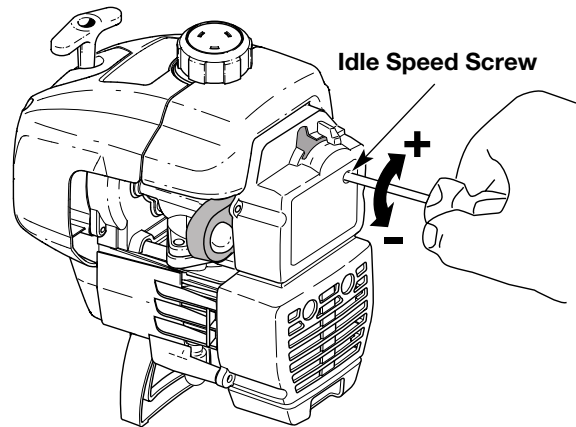

Fig. 33
The idle speed of the engine is adjustable through the Air filter/muffler cover (Fig 33).
2. Release the throttle trigger and let the engine idle. If the engine stops, insert a small phillips or flat blade screwdriver into the hole in the air filter/muffler cover (Fig. 33). Turn the idle speed screw in, clockwise, 1/8 of a turn at a time (as needed) until the engine idles smoothly.